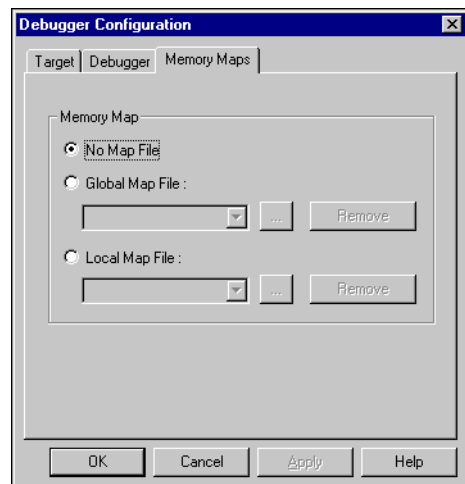

Figure 3-17 Configuration of ARM Debugger memory maps
1. Click the **Memory Maps** tab of the Debugger Configuration dialog (Figure 3-17).